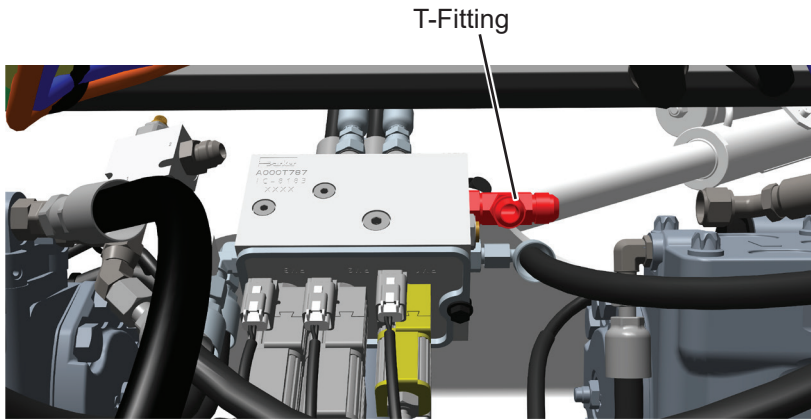

Figure 6. Chute Manifold T-Fitting Removal
8. Loosen and remove inner T-fitting from end of chute manifold. See Figure 6. T-fitting will not be reused.